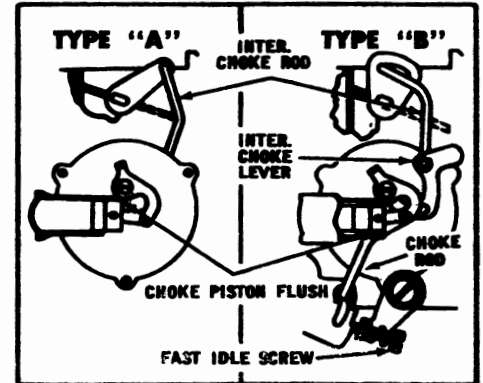

FIGURE 6
#### G. Intermediate Choke Rod: (Fig. 6)
**Step 2.** Place stop screw on second step of fast idle cam (1969 Olds. and later raise intermediate choke lever to full up position — rods at end of slots). Clearance measured that upper edge of choke valve remains open should be as listed. To adjust, bend choke rod. (For Olds. choke rod location, see fig. 6.)